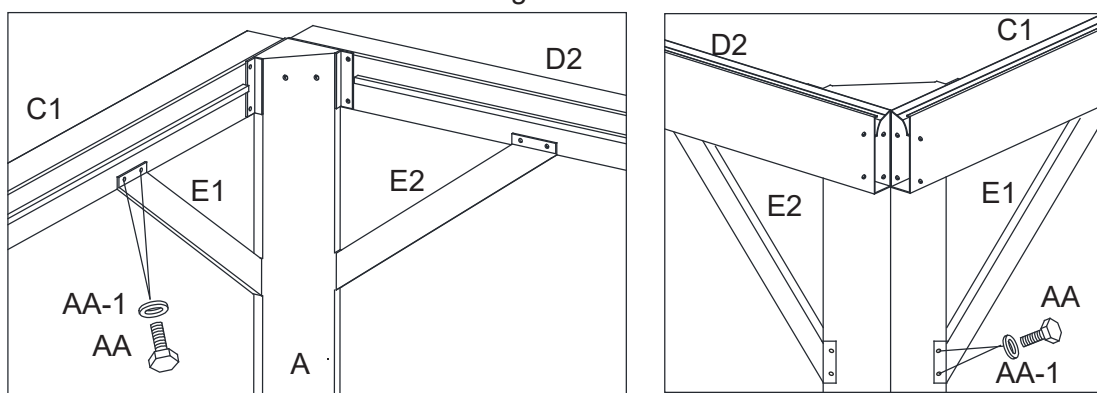

Figure 5-2
5.2. Attach Support Bars (E1/E2) to Corner Post (A) and to Lintels (C1/C2) with Bolts (AA) and Steel washer (AA-1). See Figure 5-2.